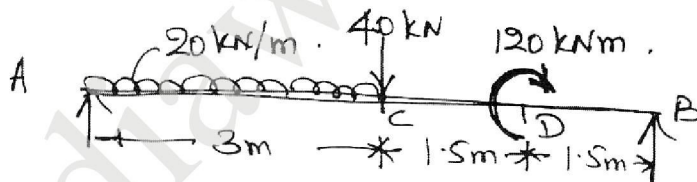

Fig.6(b)
- b. Draw shear force and bending moment diagram for the beam shown in Fig.6(b). Locate the points of contraflexure. (14 Marks)